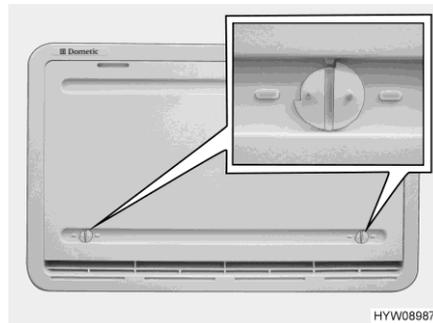

Fig. 144 Winter cover
If the refrigerator is to be operated at low external temperatures, the manufacturer recommends the use of a winter cover (Fig. 144) for the refrigerator ventilation grills.
- Open both locks (Fig. 144) (groove in horizontal position).